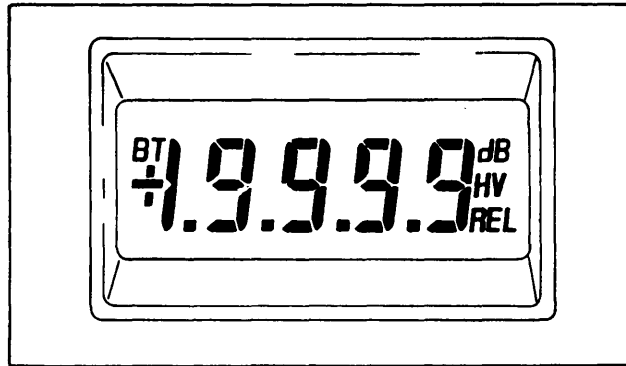

Figure 1-3. Liquid Crystal Display
a. **Liquid Crystal Display.** The LCD can easily be read from several feet away. With its 4-1/2 digits it can register from 0000 to 19999. For ease of discussion, the 19999 will be rounded off to 20000 in this manual. That is, we will refer to the 2 V range, not the 1.9999 V range. Figure 1-3 shows the LCD with all possible elements in the display illustrated. This cannot happen in real life and is only shown here to make it easier to describe the elements.